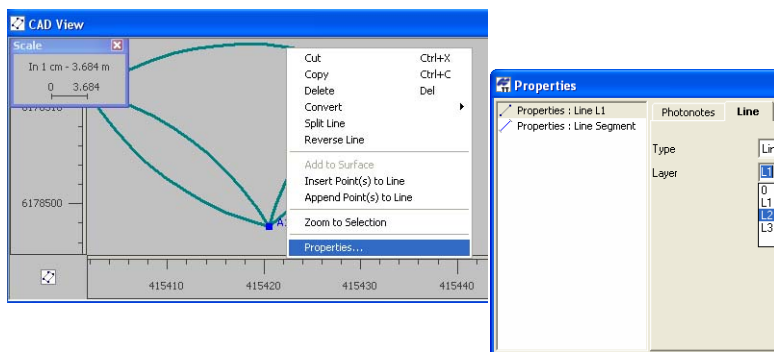

Figure 5-80. Select a Different Layer from the Drop-down List
- Right-click on the line (or selected lines) in the CAD View and select the Properties from pop-up menu. Select a different layer from the drop-down list in the Properties window (Figure 5-80).